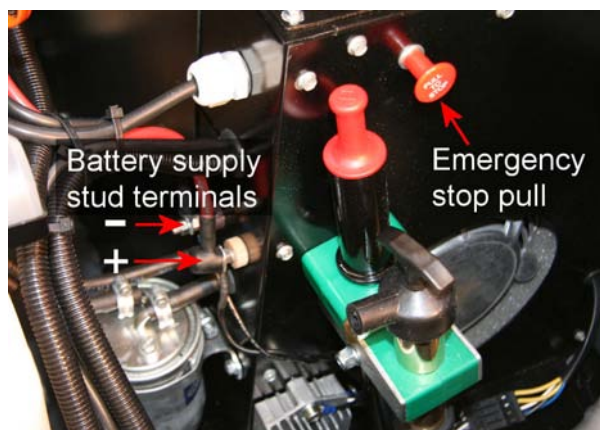

Fig 2-20 Internal Emergency Stop
There is also an emergency stop inside the cover (Fig 2-20). Pull the knob to cut off the fuel to the engine, which will stop after a short delay.
1. Connect one end of the jumper cable, usually coloured red, to the **+** battery supply stud terminal (Fig 2-20).